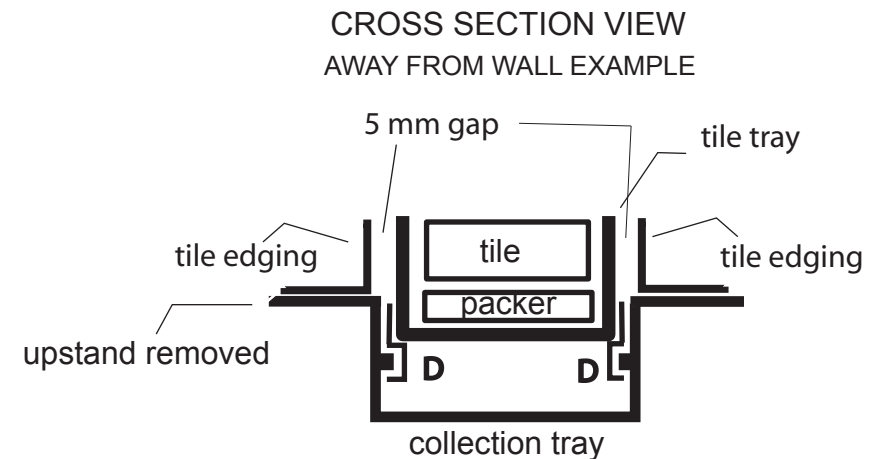

Fig 2
- 2 --- For other than against wall installation snap off and remove the vertical upstand from the collection tray (**fig 2**)
- 2 --- Position the lengths of tile edging on the flange so that they do not overhang the collection tray ( see Fig 2)